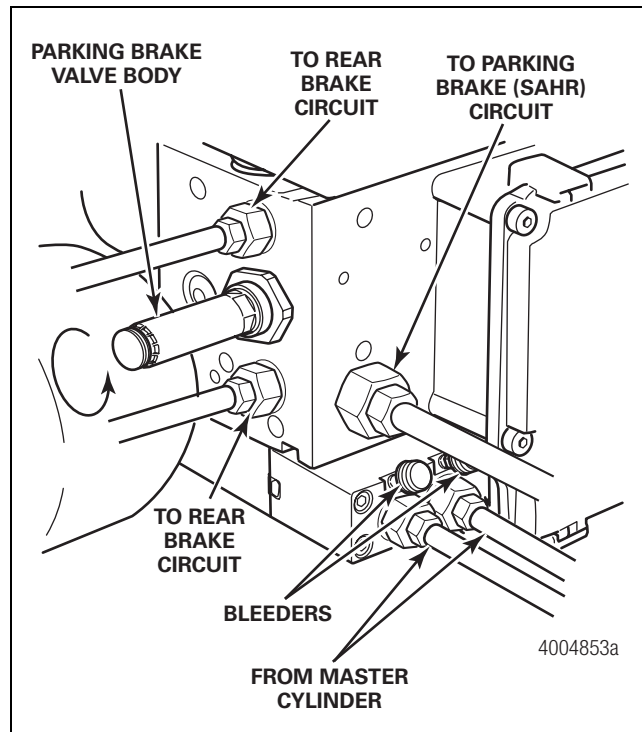

Figure 9
- Use a wrench, Snap-On part number A121, to remove the pressure supply valve from the HCU. Figure 9.
- Position the parking brake pressure supply valve onto the HCU. Use a wrench, Snap-On tool number A121, to tighten the valve to 27-34 ft-lb (40-50 N•m). Figure 9.